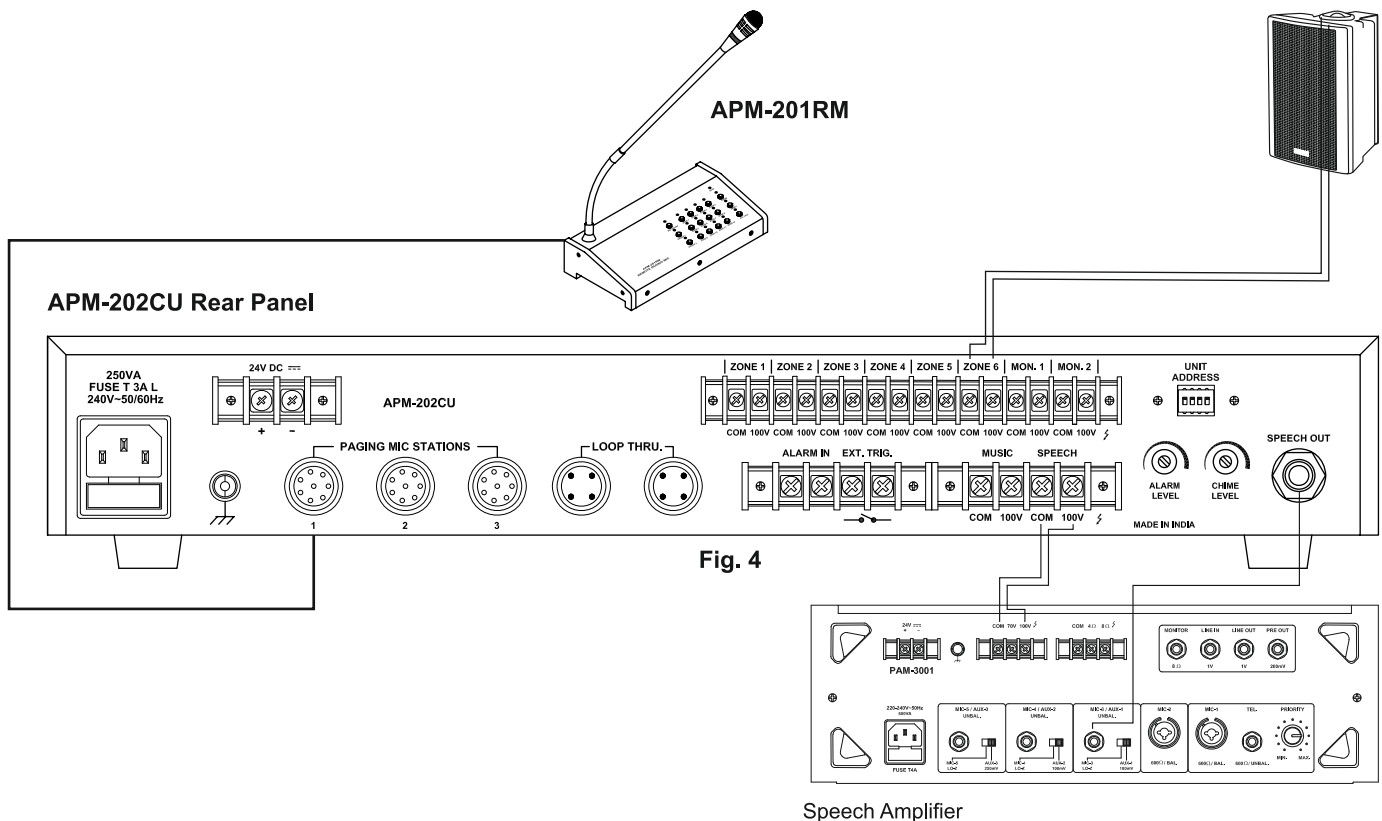

Fig. 4
- 100V output from speech amplifier should be connected to SPEECH terminal block on rear panel of APM-202CU as shown in Fig. 4.